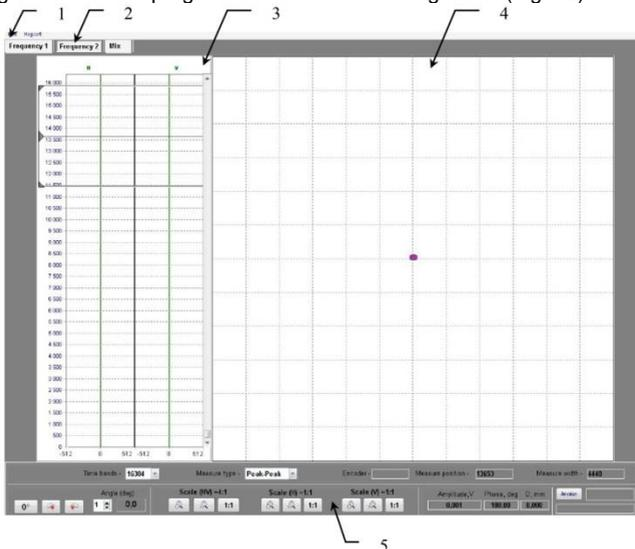

Fig. 32 – Active window of PCE-USC 30 program
The operating window of the program includes the following areas (Fig. 32):
Two diagrams of signal to time dependence are displayed in time diagram area (item 3, Fig. 32).
In the display area of eddy current signals is displayed the eddy current signal, which is represented by an image in the complex plane for the frequency selected (item 4, Fig. 32). In the active area are displayed the signals that come into the area covered by the measuring cursor.